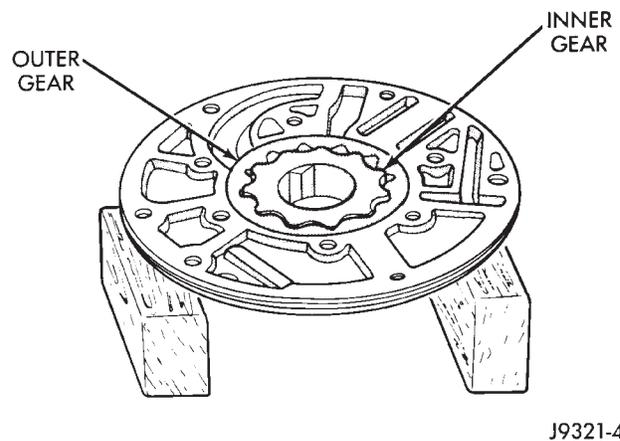

Fig. 172 Pump Inner Gear Installation
- (5) Install pump inner gear (Fig. 172).